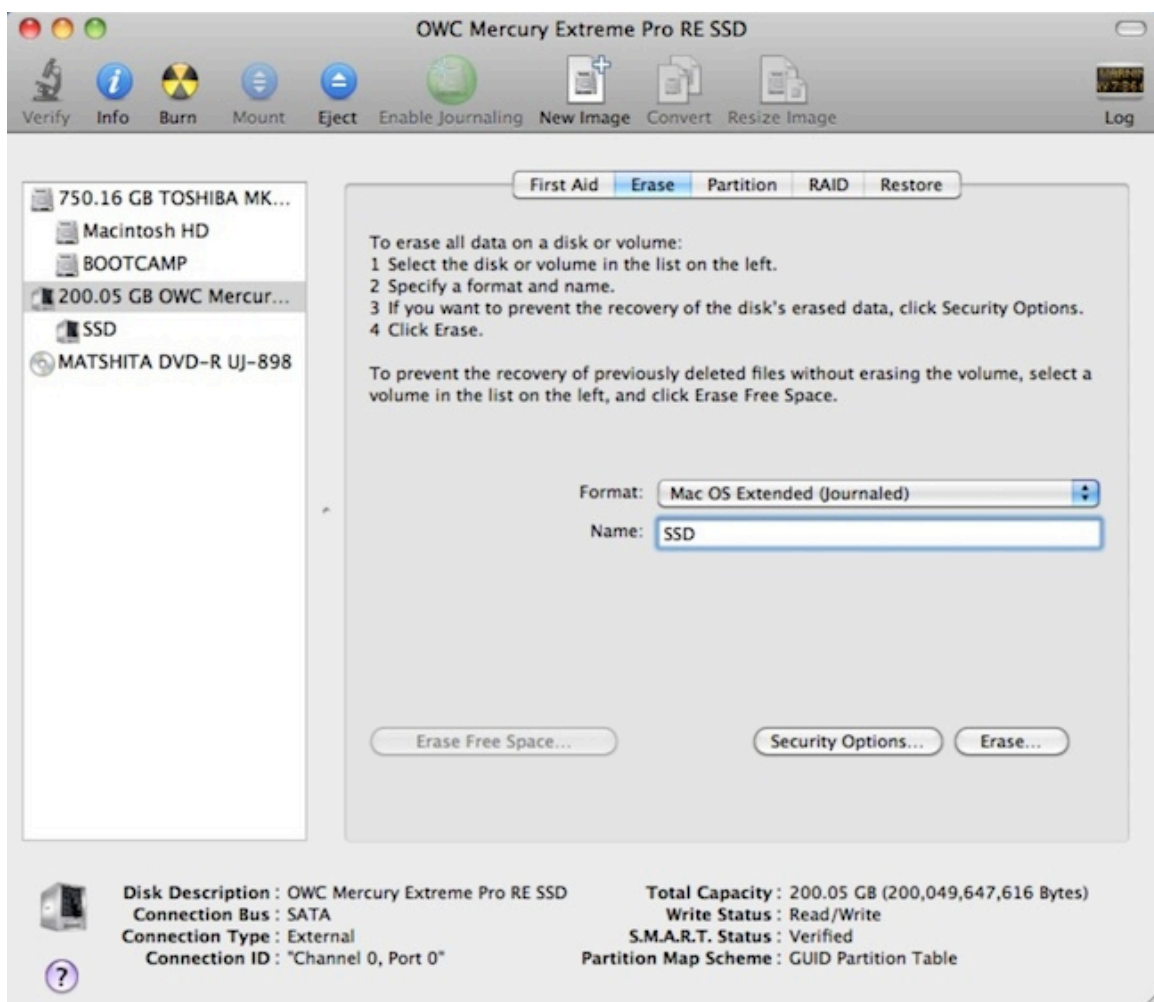

Figure 7: Selecting the *Erase* tab in Apple's *Disk Utility*
3. After carefully selecting the drive you wish to format, select the *Erase* tab in Apple's *Disk Utility* (see Figure 7).